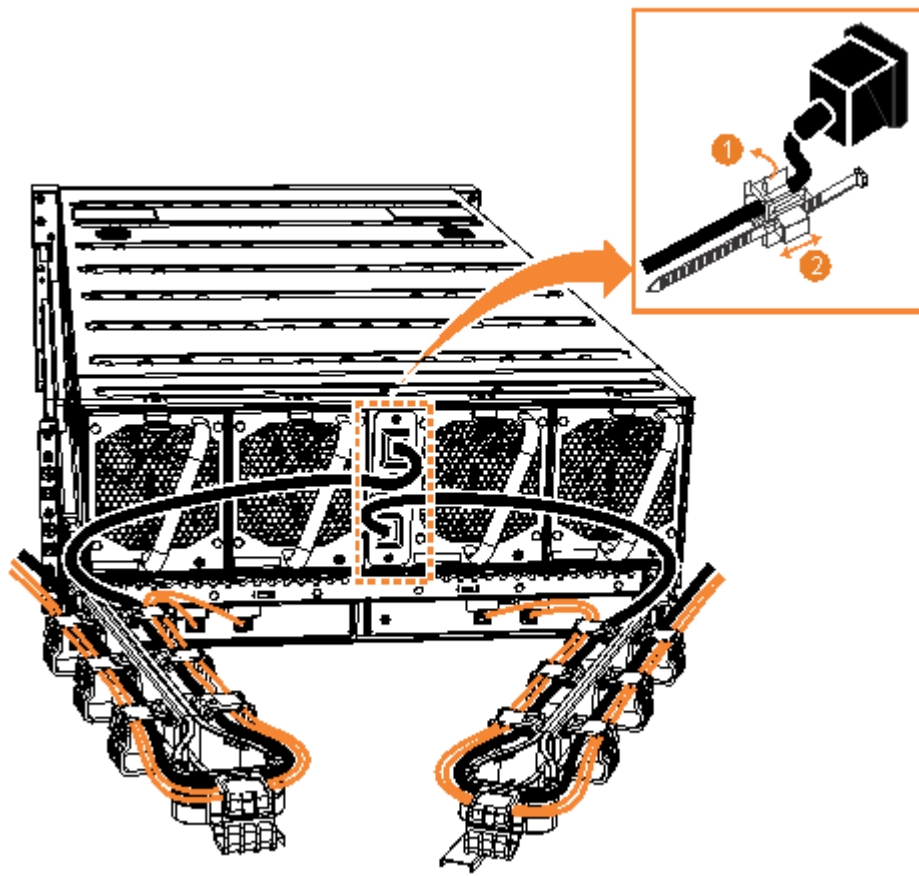

Figure 77. Secure power cables
2. Secure the power cables in the cable retainer at each power connector on the rear of the enclosure, as shown in Figure 77 on page 78. Also, ensure that each cable is installed along one of the cable management arms. The cable management arms also support the SAS cables.